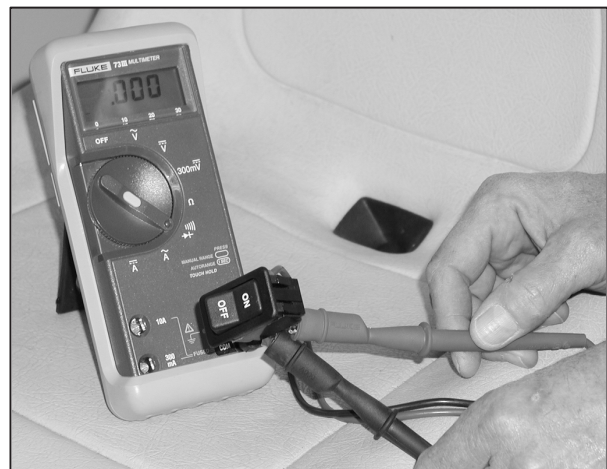

Fig. 37
2. Attach one meter test lead to each terminal on the switch, **Fig. 37**. Activate switch.